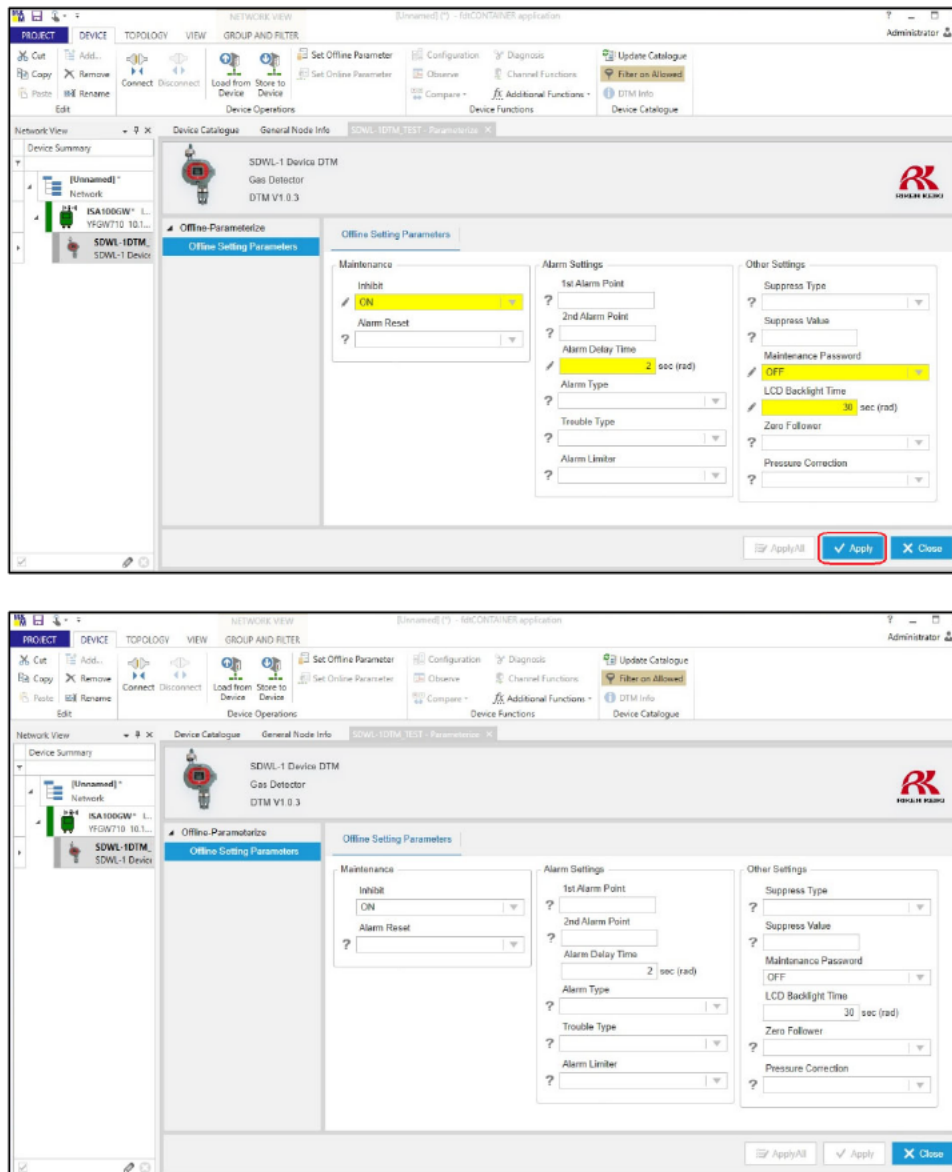

Figure 6-12 Offline parameter value editing
- ① Edit the parameter values within the "Offline Setting Parameters" tree menu, then click "Apply". (Figure 6-12)